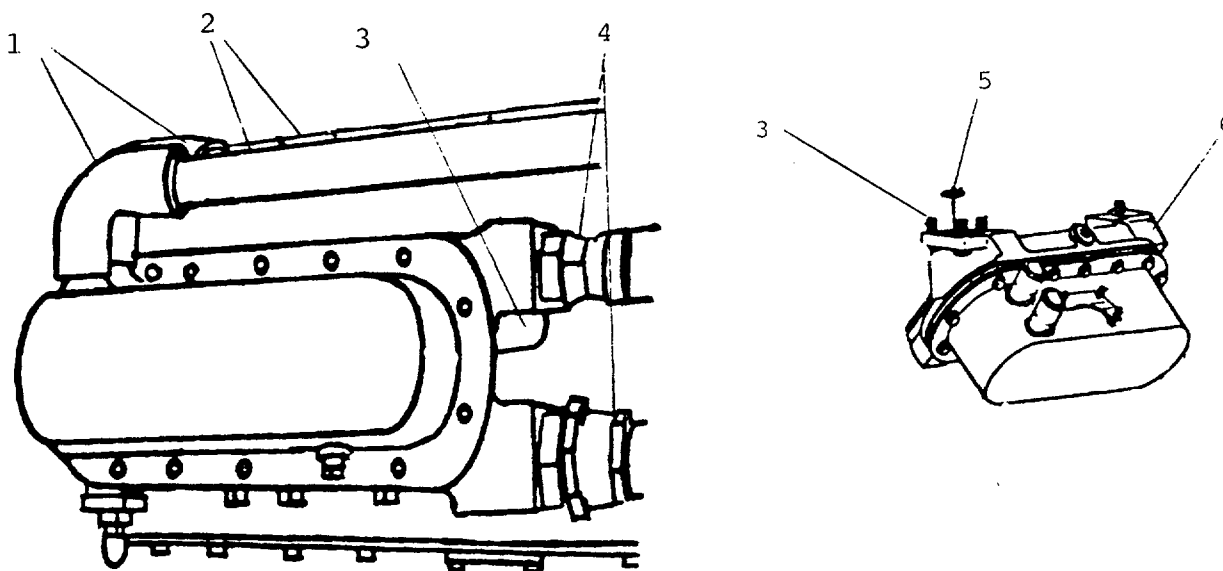

Figure 4-3. Cooler Assembly (Oil)
**INSPECT** (Figure 4-3.) Look for restrictions in oil passages of oil cooler. If oil cooler has a restriction, oil cooler bypass valve in oil filter base will open. This will cause flow of oil to go around oil cooler. Oil temperature will be higher than normal when engine is running. Oil pressure of the engine will become low if oil cooler has a restriction.